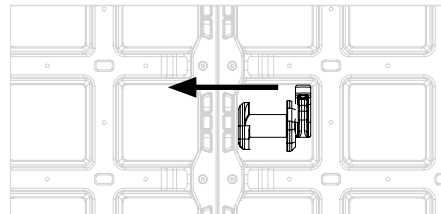
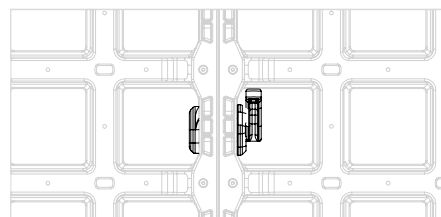

Fig. A3.03b
Fig. A3.03c
1. Insert the DUO coupler (**21**) into the connector pocket up to the limit stop. (Fig. A3.03b + Fig. A3.03c)